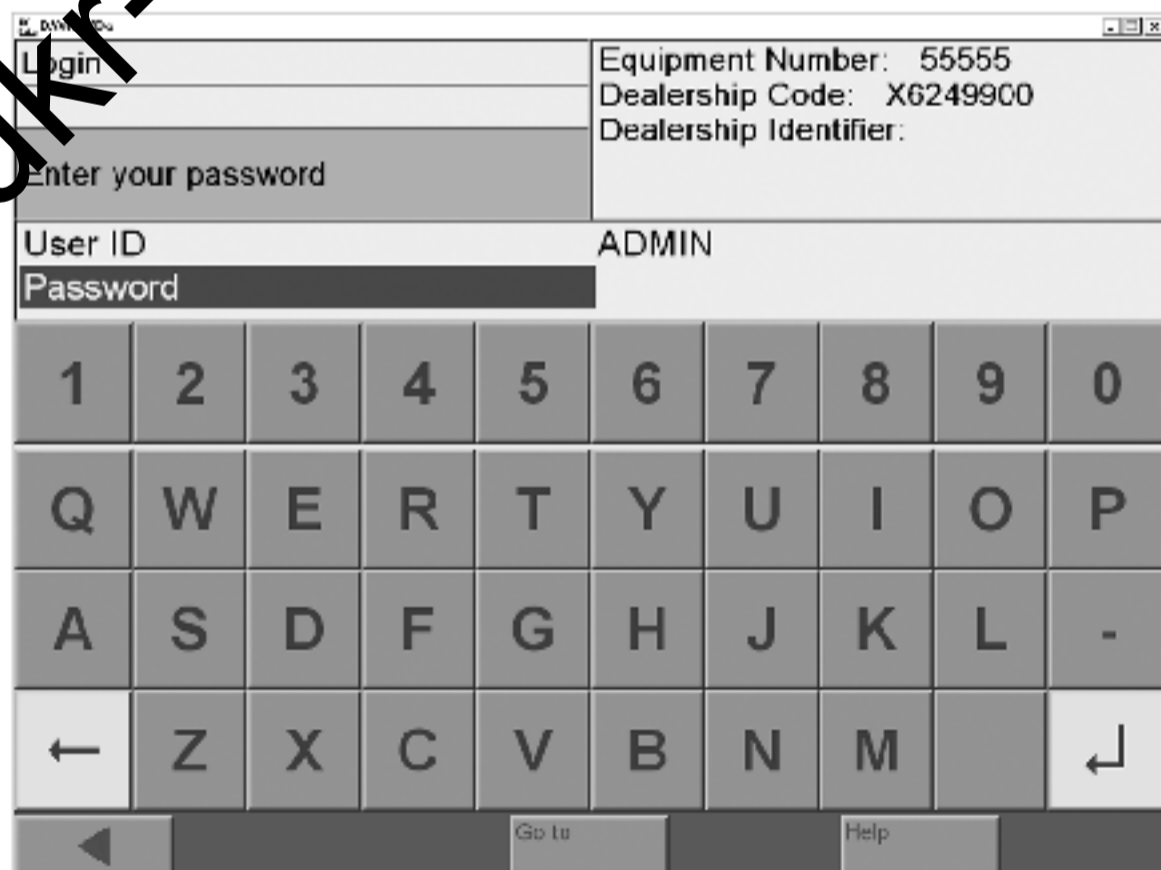

Figure 4-3 "Login" screen: entering the password
2. The screen in Figure 4-3 is displayed. Under "User ID", enter "ADMIN" and press the "Return" button" on the keyboard.